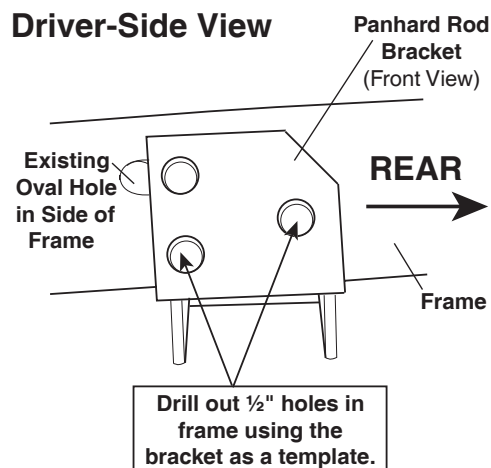
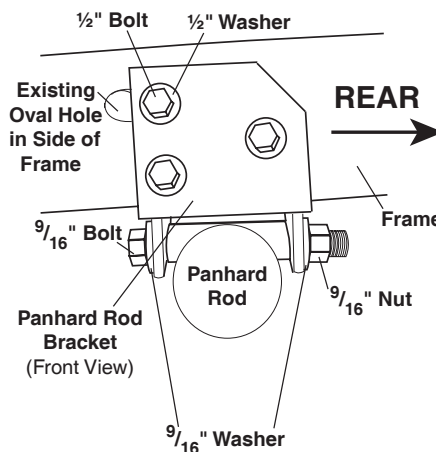

Figure 8
Figure 10
1. Attach the panhard rod bracket to the driver side frame. Use the oval hole in the side of the frame shown in Figure 8 as your starting point. Insert a  $\frac{1}{2}$ " bolt through a flat washer, the bracket, the frame, a large flat washer and a nyloc nut. Push the bracket to the rear as far as possible and clamp both the frame and bracket flange together (Figure 9).
2. Drill out the remaining holes, even through the frame flange, to  $\frac{1}{2}$ " (Figure 8, Figure 9). Attach with three more  $\frac{1}{2}$ " bolts, six flat washers and three nyloc nuts (Figure 10). Starting with the bottom flange, tighten all hardware to 107 ft.lbs.
3. Attach the panhard rod assembly to the panhard rod bracket to the frame rail using one  $\frac{9}{16}$ " bolt, two flat washers and one nyloc nut (Figure 10). Leave loose at this time.
**NOTE:** Insert the bolt front-to-rear so the nyloc nut is in the back towards the rear of the vehicle (Figure 10).